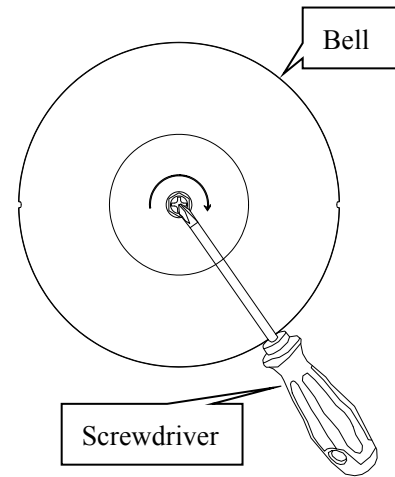

Figure6: Locking the screw with cover of bell
Step3. Locking the screw with cover of bell (see figure6).